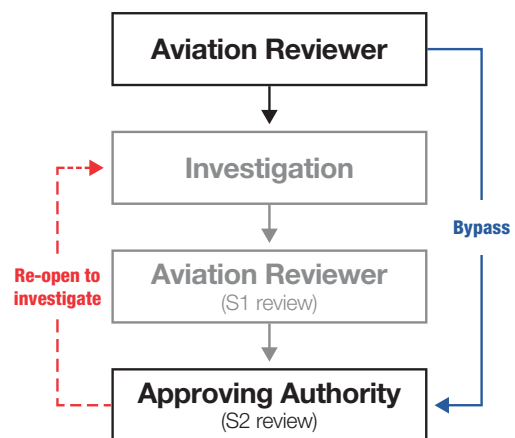

Figure 17: Bypass Investigation Workflow
**Workflow.** Figure 17 illustrates the workflow for an event that has been recorded as 'Data capture only'/'Bypass Investigation'. Following selection of 'Data capture only'/'Bypass Investigation', the Aviation Event progresses to the Approving Authority (for S2 review) and the Aviation Event is considered to have passed 'First Release'.